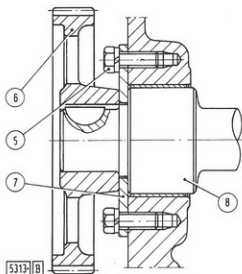

Fig. 13 - Sectional View of Camshaft Drive
To take out the camshaft, remove the thrust plate (7) retaining screws (5, Fig. 13).